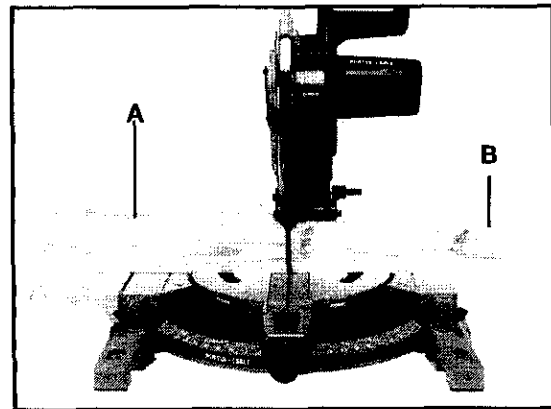

Fig. 36
Holes are provided in the fence to attach an auxiliary fence (A) and (B) Fig. 36. This auxiliary fence is constructed of straight wood approximately 1/4" thick by 3/4" high by 16 inches long as shown at (B); and 1/2" thick by 5" high by 17" long (A) Fig. 36.